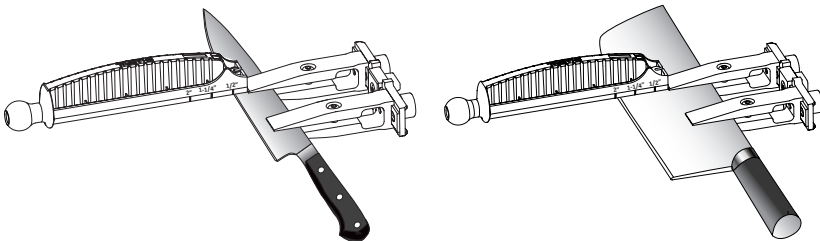

Fig. 8
**Wide Knife:** Ensure the distance from the clamp end to the cutting edge is 2 inches (50.8 mm) (See Fig. 8).